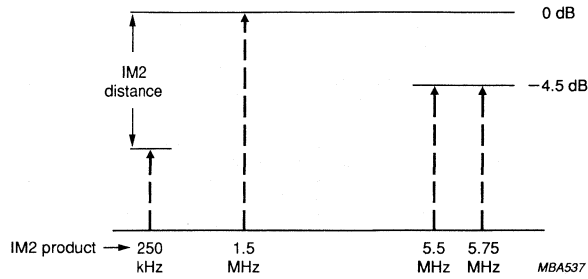

Fig.3 IM2 product.
- For the intermodulation measurement, an FM test signal is applied having the following modulating components: 1.5 MHz reference sinewave with a deviation of 9.45 MHz(p-p), 5.5 and 5.75 MHz sinewaves with deviation 5.6 MHz(p-p) (so 4.5 dB below the reference, see Fig. 3). At the demodulator output the 2nd order intermodulation is defined according to Fig. 3. The video output is loaded with 500 Ω resistor + DC blocking capacitor.